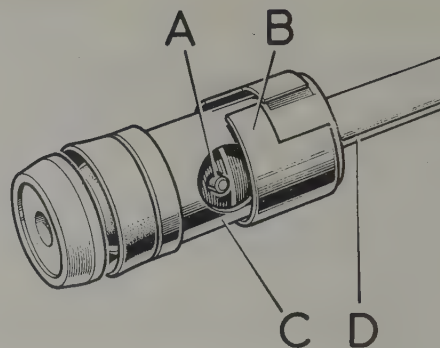

Fig. 9.52. Primary piston and pushrod assembly (Lockheed servo unit)
- 6 Withdraw the pushrod/piston assembly from the servo slave cylinder and then slide off the plastic bearing, rubber cup and plastic spacer. If necessary, the pushrod can be detached from the piston by opening the retaining clip to expose the connecting pin which can then be driven out (Fig. 9.52).